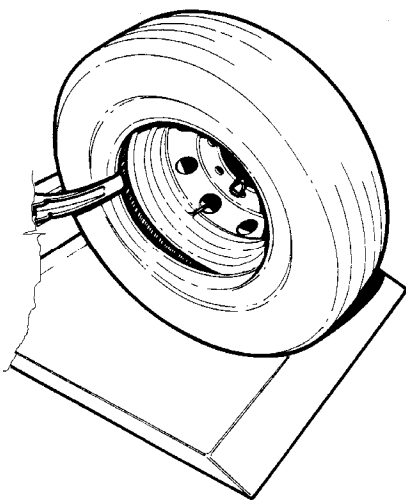

Fig.31
4. Rotate the chuck counter clockwise until the outer bead is completely demounted (Fig.31).